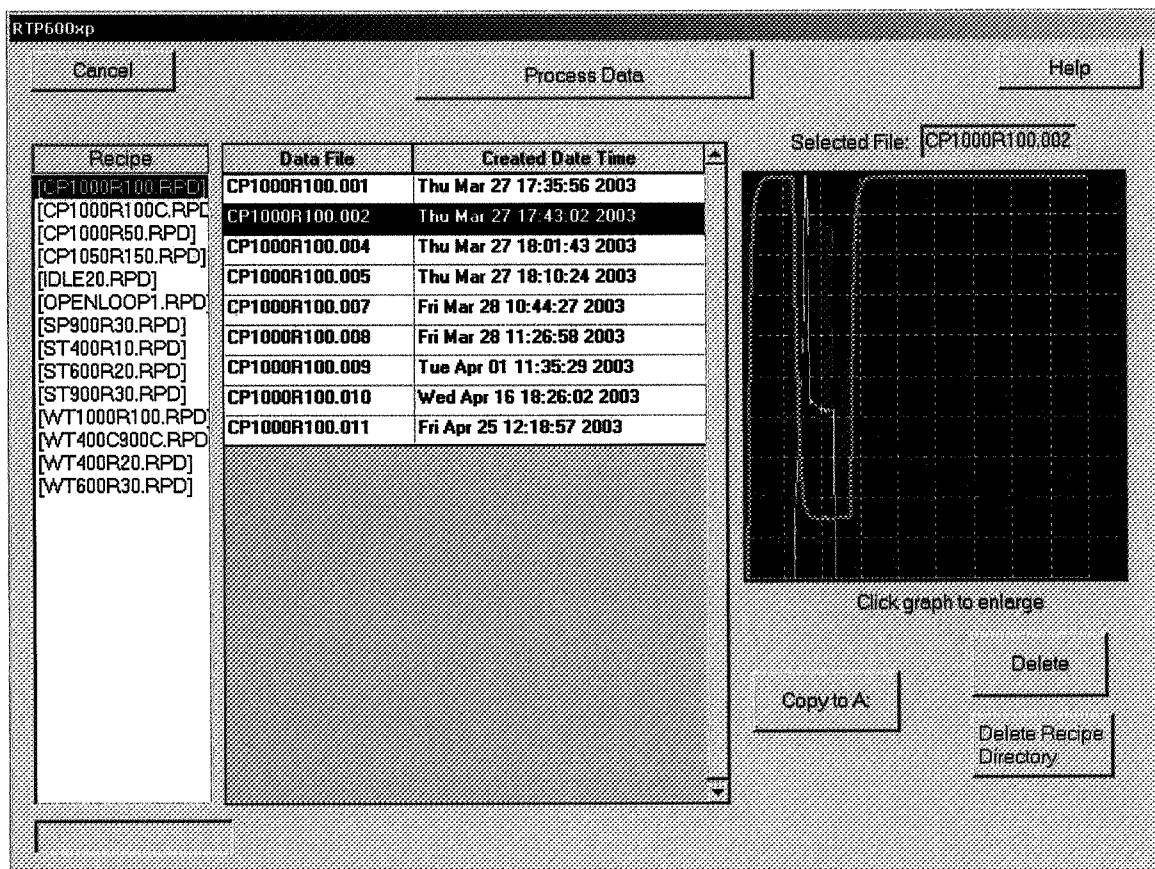

Figure 3-18. **SPC Mode Process Data Screen**
2. The **Historical Process Data File Directory Screen** will appear (see **Figure 3-18**).